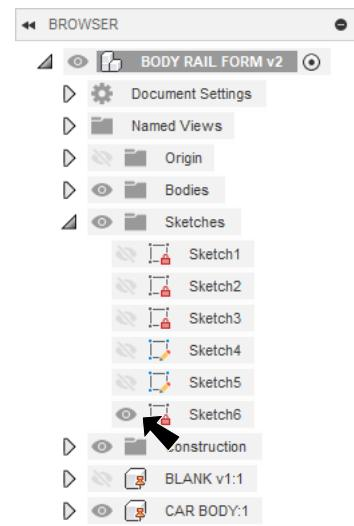
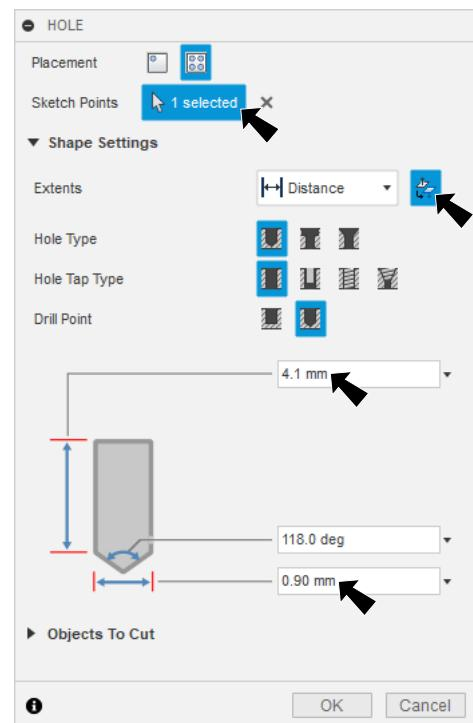

Fig. 32
Fig. 33
Step 1. Expand Sketches in the Browser, Show Sketch6 (holes sketch), Fig. 32.
Step 2. Click **Hole** (H) in the toolbar.
Step 3. In the Hole panel set, Fig. 33